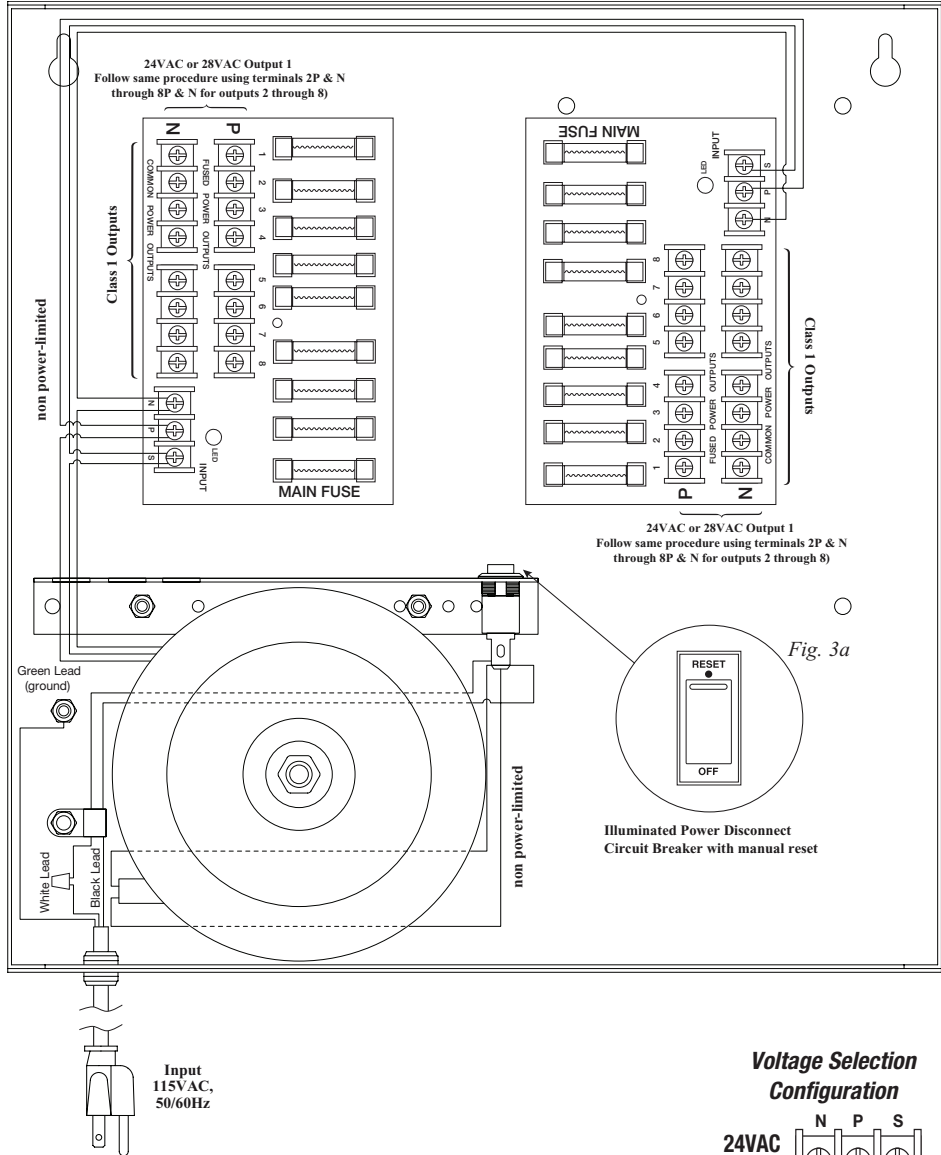

Fig. 3a
2. Set power switch on power distribution board marked [PD] to OFF position for models ALTV2416ULX3 or ALTV2416ULCBX3 (Figs. 1, 2, pgs. 4, 5). Set power disconnect circuit breaker to OFF position for all other models (Figs. 3a - 8a, pgs. 6 - 10).
5. Set power switch on power distribution board marked [PD] to ON position for models ALTV2416ULX3 or ALTV2416ULCBX3 (Figs. 1, 2, pgs. 4, 5). Set power disconnect circuit breaker to RESET (ON) position for all other models (Figs. 3a - 8a, pgs. 6 - 10).
7. Set power switch on power distribution board marked [PD] to OFF position for models ALTV2416ULX3 or ALTV2416ULCBX3 (Figs. 1, 2, pgs. 4, 5). Set power disconnect circuit breaker to OFF position for all other models (Figs. 3a - 8a, pgs. 6 - 10).
9. Set power switch on power distribution board marked [PD] to ON position for models ALTV2416ULX3 or ALTV2416ULCBX3 (Figs. 1, 2, pgs. 4, 5). Set power disconnect circuit breaker to RESET (ON) position for all other models (Figs. 3a - 8a, pgs. 6 - 10).